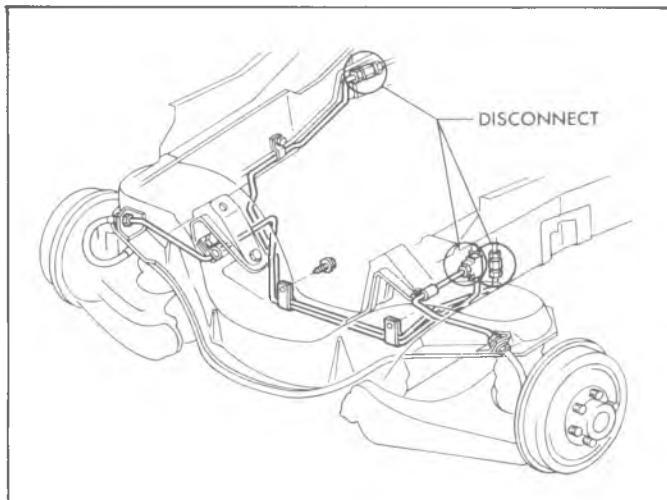

Fig. 2L—Brake Line Disconnects
17. Disconnect front brake pipe at equalizer tee and disconnect rear brake pipe at connector at left frame rail (Fig. 2L).